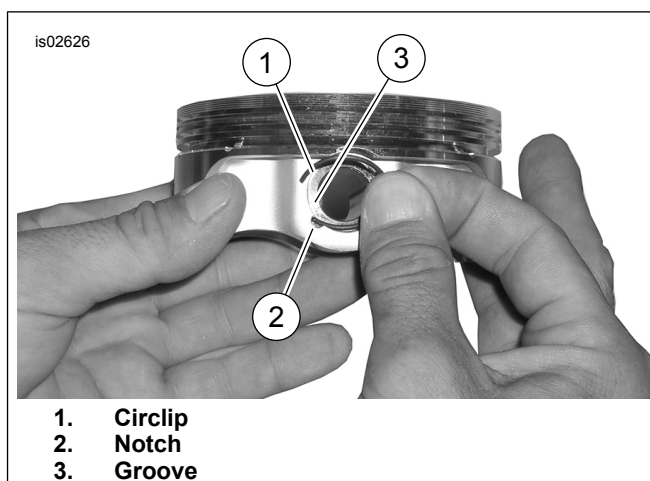

Figure 1. Circlip and Piston
1. See Figure 1. Insert the open end of the circlip (1) into the notch (3) on the groove (2) around the piston pin boss so that the gap is at the 12:00 or 6:00 position when installed.